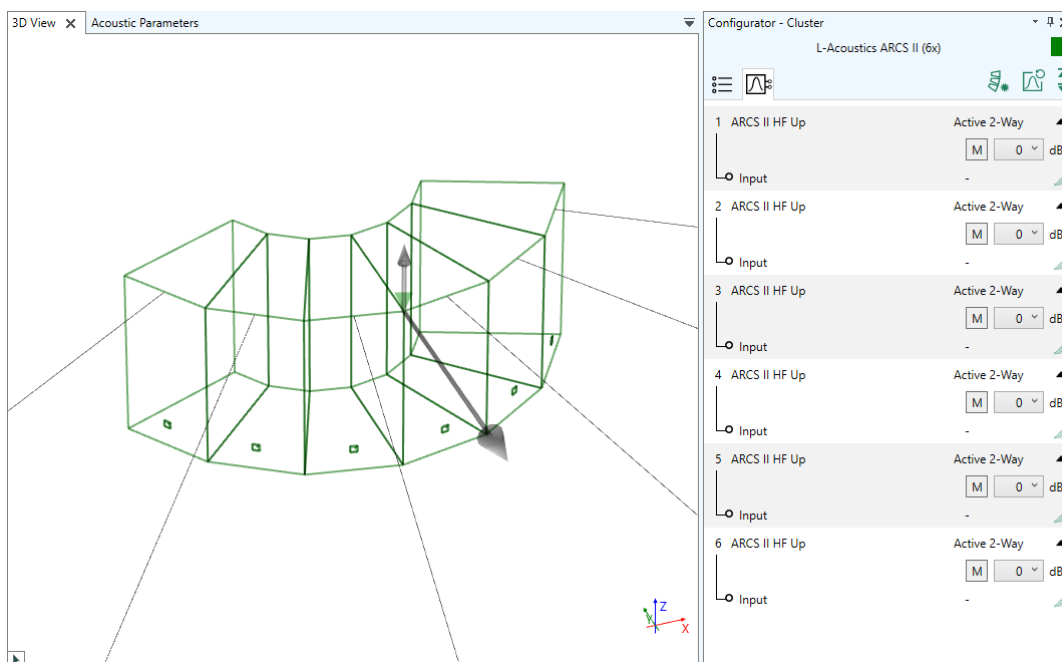

Figure 9.25 Input configuration view showing a predefined base setup with 6 elements.
- The input configuration view can be accessed via the  tab. It shows a list of all array elements and their respective filter settings (Figure 9.25). The  button can be used to reset the filter configuration. For more details, please see section 9.7.4.